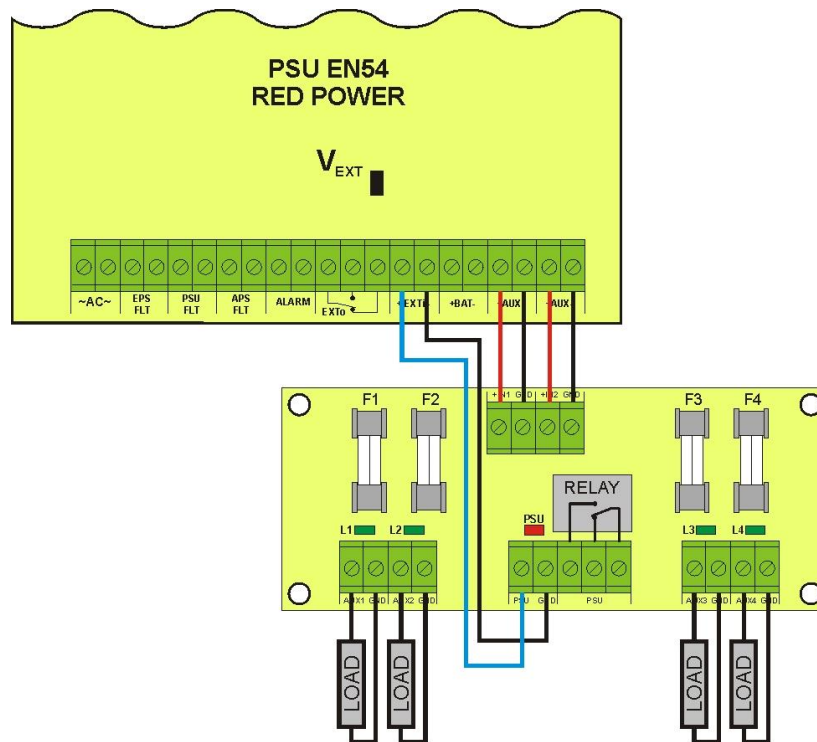

Fig.21. The connection of fuse module
- switching PSU relay output into voltage free status (contacts as shown in the Fig. 21).